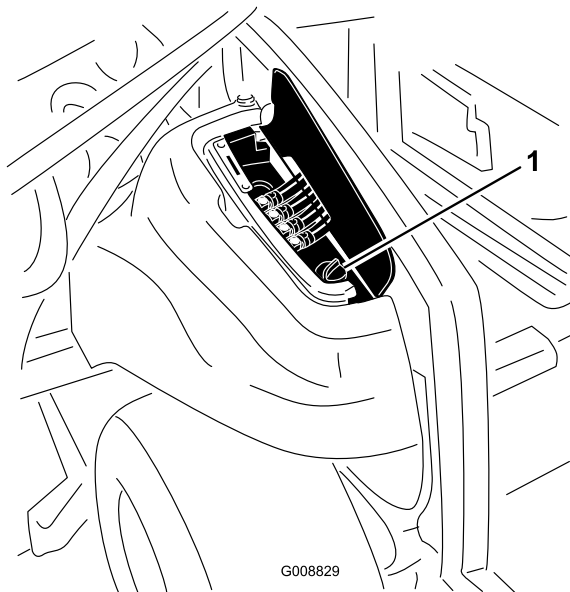

Figure 82
2. On the right side of the machine, raise the access cover to expose the hydraulic tank cap (Figure 82).
3. Clean the area around the filler neck and cap of the hydraulic tank (Figure 82). Remove the cap from the filler neck.